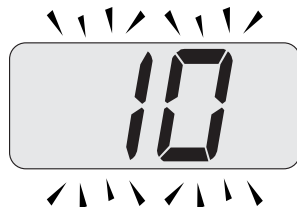

Fig. 7.26
- Press keys 11 and 13 (Fig. 7.23) at the same time until the value of parameter 11 (10=60 seconds) (Fig. 7.26) is displayed on the LCD display .